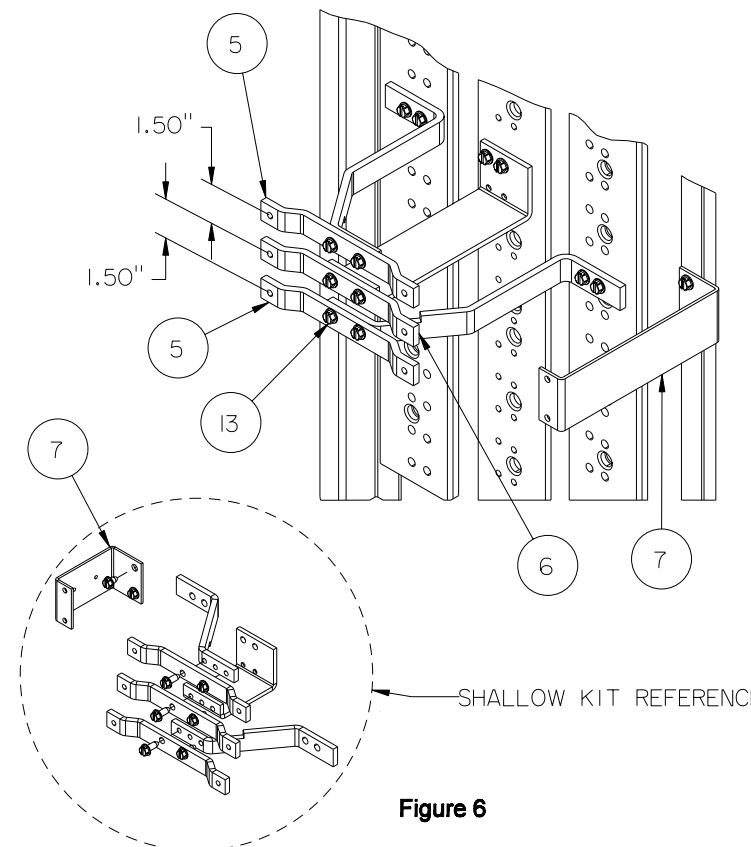

Figure 6
7. Reference fig. 6 - Install the link bars (items 5 and 6). Insert two 1/4-20 X 5/8" screws (item 13) through the two 0.281" diameter holes in the B link bar (item 6) and into the two 0.228" diameter holes in the B ϕ strap and tighten. Repeat this step to mount the two A/C link bars (item 5) to the A ϕ and C ϕ straps, orienting the link bars as shown so as to have 1.50" vertically between centers of the bars. Torque all screws as specified on the rear of the dead front.